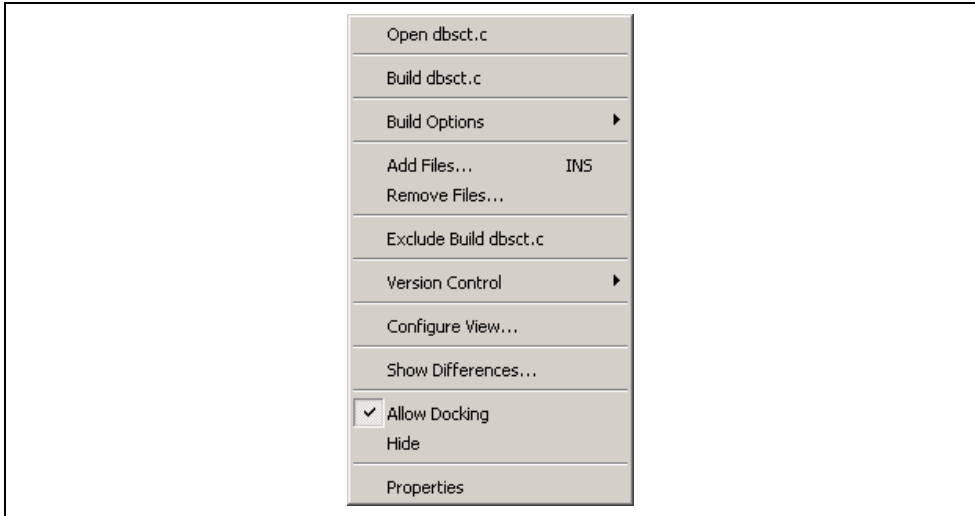
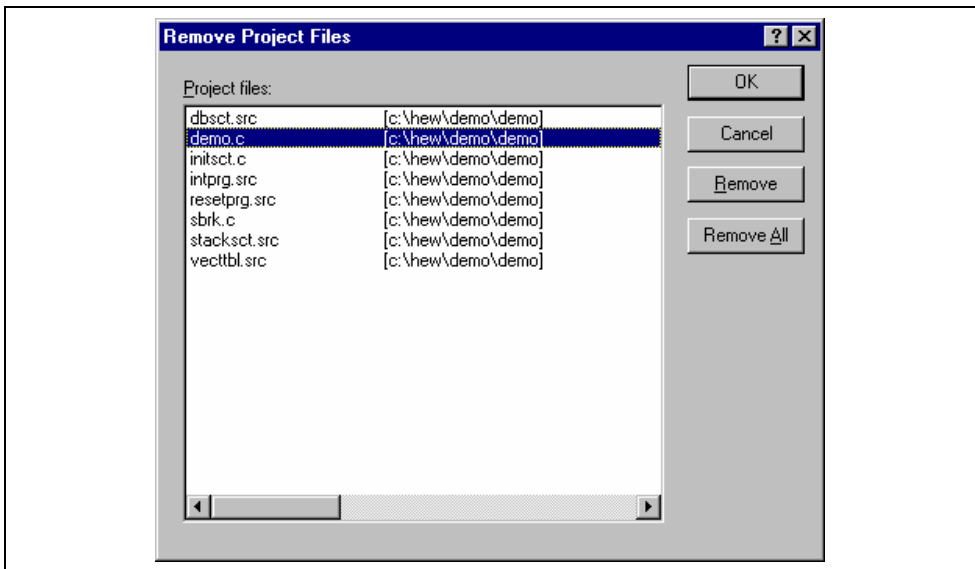

Figure 2.5: Projects Tab Pop-up Menu
Figure 2.6: Remove Project Files Dialog
1. Select [**Project->Remove Files...**], or click the right mouse button on a project icon in the “Projects” tab of the “Workspace” window and select [**Remove Files...**] from the pop-up menu (see figure 2.5). The “Remove Project Files” dialog will be displayed (figure 2.6).
2. Select [**Exclude Build file**], where <file> is the selected file, from the pop-up menu (figure 2.5). Then a red cross will be put on the file's icon, and the file will be excluded from build.